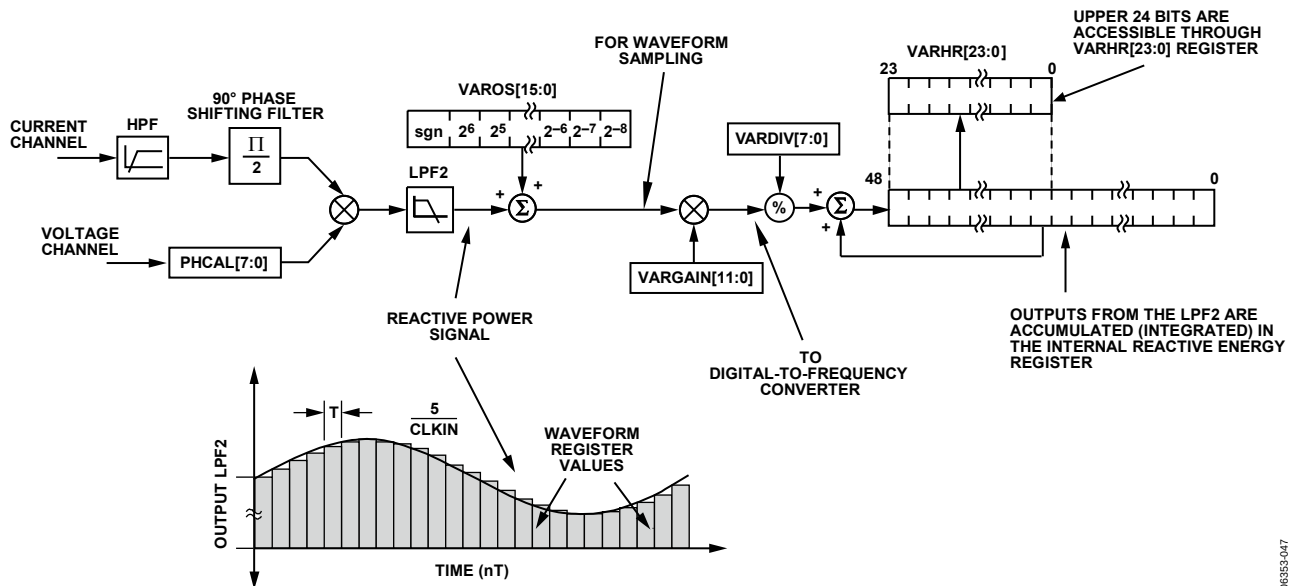

Figure 72. Reactive Energy Calculation
The instantaneous reactive power signal $q(t)$ is generated by multiplying the voltage and current channels. In this case, the phase of the current channel is shifted by 90°. The dc component of the instantaneous reactive power signal is then extracted by a low-pass filter to obtain the reactive power information (see Figure 72).
Figure 72 shows the signal processing chain for the ADE7169/ADE7569 reactive power calculation. As explained in the Reactive Power Calculation (ADE7169/ADE7569) section, the reactive power is calculated by applying a low-pass filter to the instantaneous reactive power signal. Note that, when reading the waveform samples from the output of LPF2, the gain of the reactive energy can be adjusted by using the multiplier and by writing a two's complement, 12-bit word to the var gain register (VARGAIN[11:0], Address 0x1E). Equation 25 shows how the gain adjustment is related to the contents of the var gain register.
The ADE7169/ADE7569 also incorporate a reactive power offset register (VAROS[15:0], Address 0x21). This signed, two's complement, 16-bit register can be used to remove offsets in the reactive power calculation (see Figure 72). An offset can exist in the reactive power calculation due to crosstalk between channels on the PCB or in the IC itself. The offset calibration allows the contents of the reactive power register to be maintained at 0 when no power is being consumed.
The discrete time sample period (T) for the accumulation register in the ADE7169/ADE7569 is 1.22 μs (5/MCLK). As well as calculating the energy, this integration removes any sinusoidal components that may be in the active power signal. Figure 72 shows this discrete time integration or accumulation. The reactive power signal in the waveform register is continuously added to the internal reactive energy register.
As shown in Figure 72, the reactive power signal is accumulated in an internal 49-bit, signed register. The reactive power signal can be read from the waveform register by setting the WAVMODE register (Address 0x0D) and setting the WFSM bit (Bit 5) in the Interrupt Enable 3 SFR (MIRQENH, Address 0xDB). Like the current and voltage channel waveform sampling modes, the waveform data is available at sample rates of 25.6 kSPS, 12.8 kSPS, 6.4 kSPS, and 3.2 kSPS.